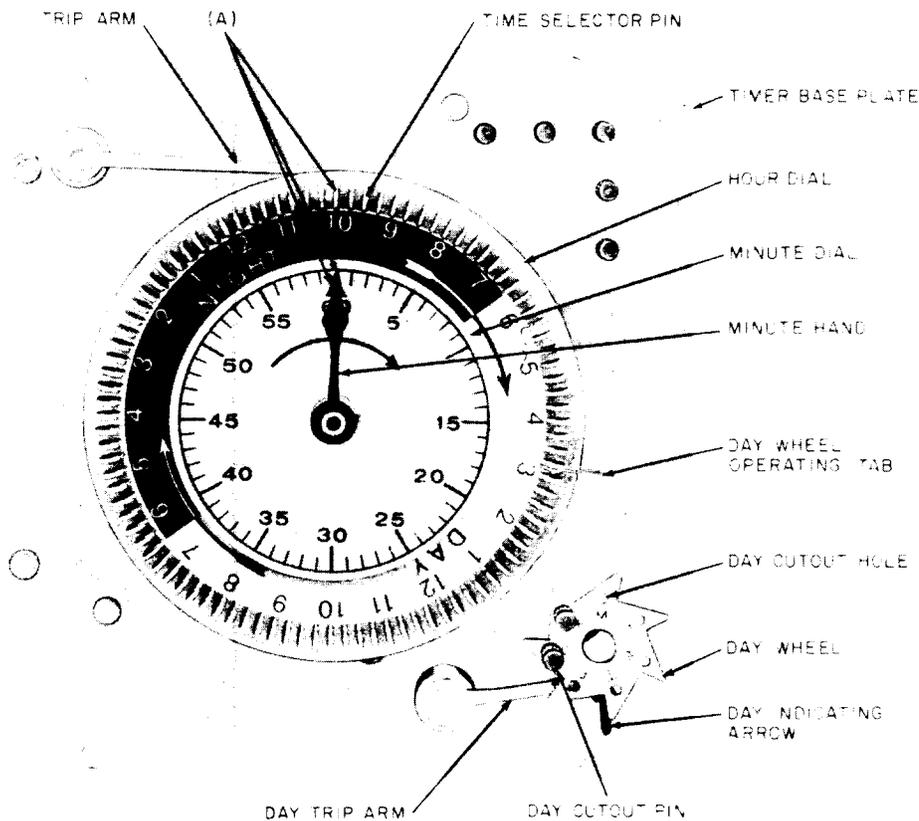

Fig. 1—KS-14741 Program Timer—Front View (L1 Timer Shown)
Fig. 1 (A)—When a time selector pin, directly above an hour designation on the hour dial, is in line with the 60 mark on the minute dial, the minute hand shall be in alignment with the 60 mark.
With the timer connected in the circuit, turn the minute hand (Fig. 1) cw until the correct hour of the day or night on the hour dial is in line with the 60-minute mark on the minute dial. Then further turn the minute hand until it is in line with the mark on the minute dial indicating the correct number of minutes past the hour.
Turn the day wheel (Fig. 1) ccw until the letter corresponding to the correct day of the week is directly in front of the day indicating arrow when the wheel comes to rest under control of its centering mechanism. Note that the letter X indicates Sunday.